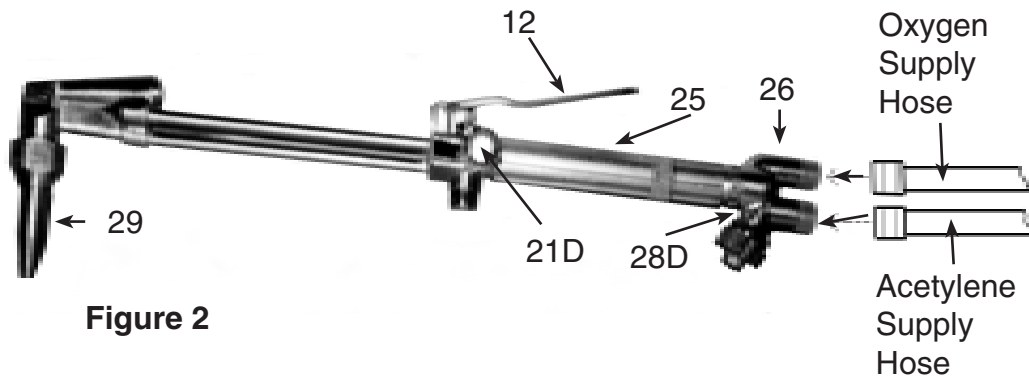

Figure 2
5. Screw the oxygen supply hose (not included) firmly onto the TOP threaded portion the the Body “Y” (26). Then screw the acetylene supply hose (not included) firmly onto the BOTTOM threaded portion of the Body “Y” (26). Acetylene has a left handed thread and Oxygen has a right handed thread. See **Figure 2**.
2. Hold the Cutting Torch by its Handle (25) in one hand and a flint lighter (not included) in the other hand. See **Figure 2**.
8. To increase the intensity of the flame, depress the High Pressure Lever (12). To decrease the intensity, decrease pressure on the High Pressure Lever (12).
4. When steel becomes red, slowly depress High Pressure Lever (12) to release oxygen stream to cut all the way through.
6. Once the cutting job is completed, turn off the Oxygen Control Valve (21D) first, then turn off the Acetylene Control Valve (28D). Reversal of this shutoff procedure may cause damage to the cutting torch parts. See **Figure 2**.